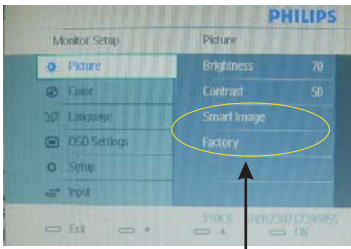

Fig. 24
- Press "OK" button, wait until the OSD menu with Characters "Smart Image " "Factory " (below OSD menu) come on the Screen of the monitor. as shown in Fig24.
- 3). Press "OK" button, wait until the OSD menu with Characters "Smart image" "Factory" (below OSD menu) come on the Screen of the monitor. as shown in Fig24.